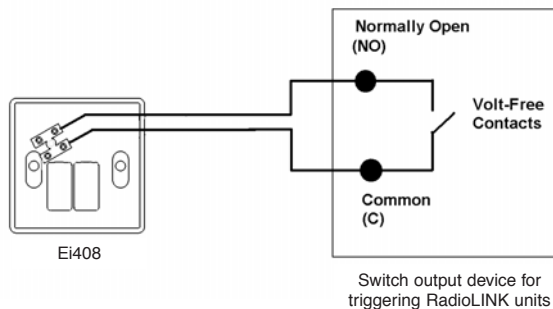

Figure 1
2. Neatly run wiring from the Volt-Free switched contacts that will be used to trigger the Ei408 through one of the knockouts in the back-box and connect to the terminal block as shown in Figure 1.